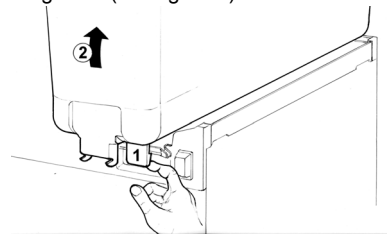

figure 1
**2** Remove the empty bowl by lifting pulling lever (1) and its **front side (faucet side)** up and off bowl gasket (see figure 1).